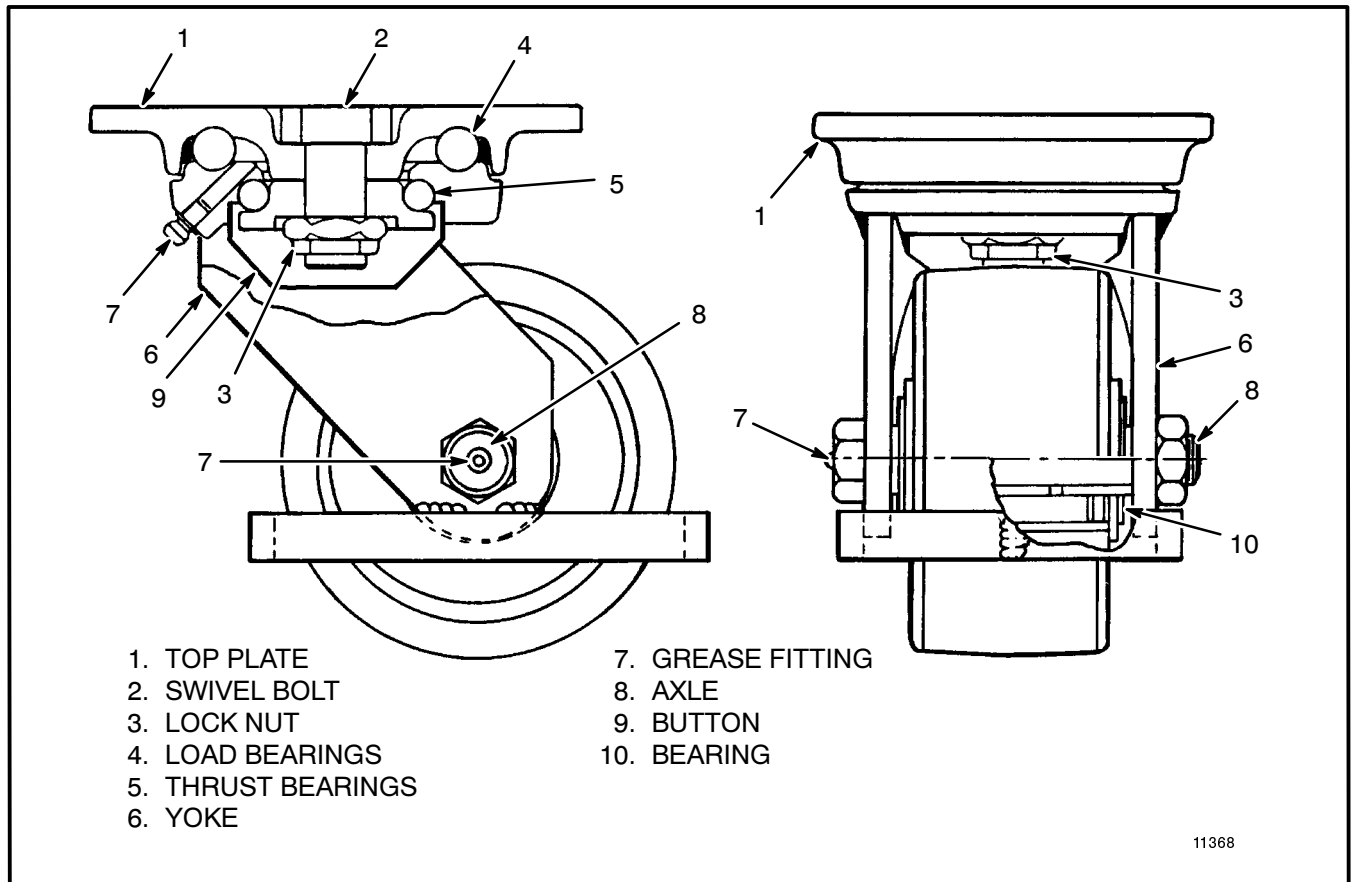
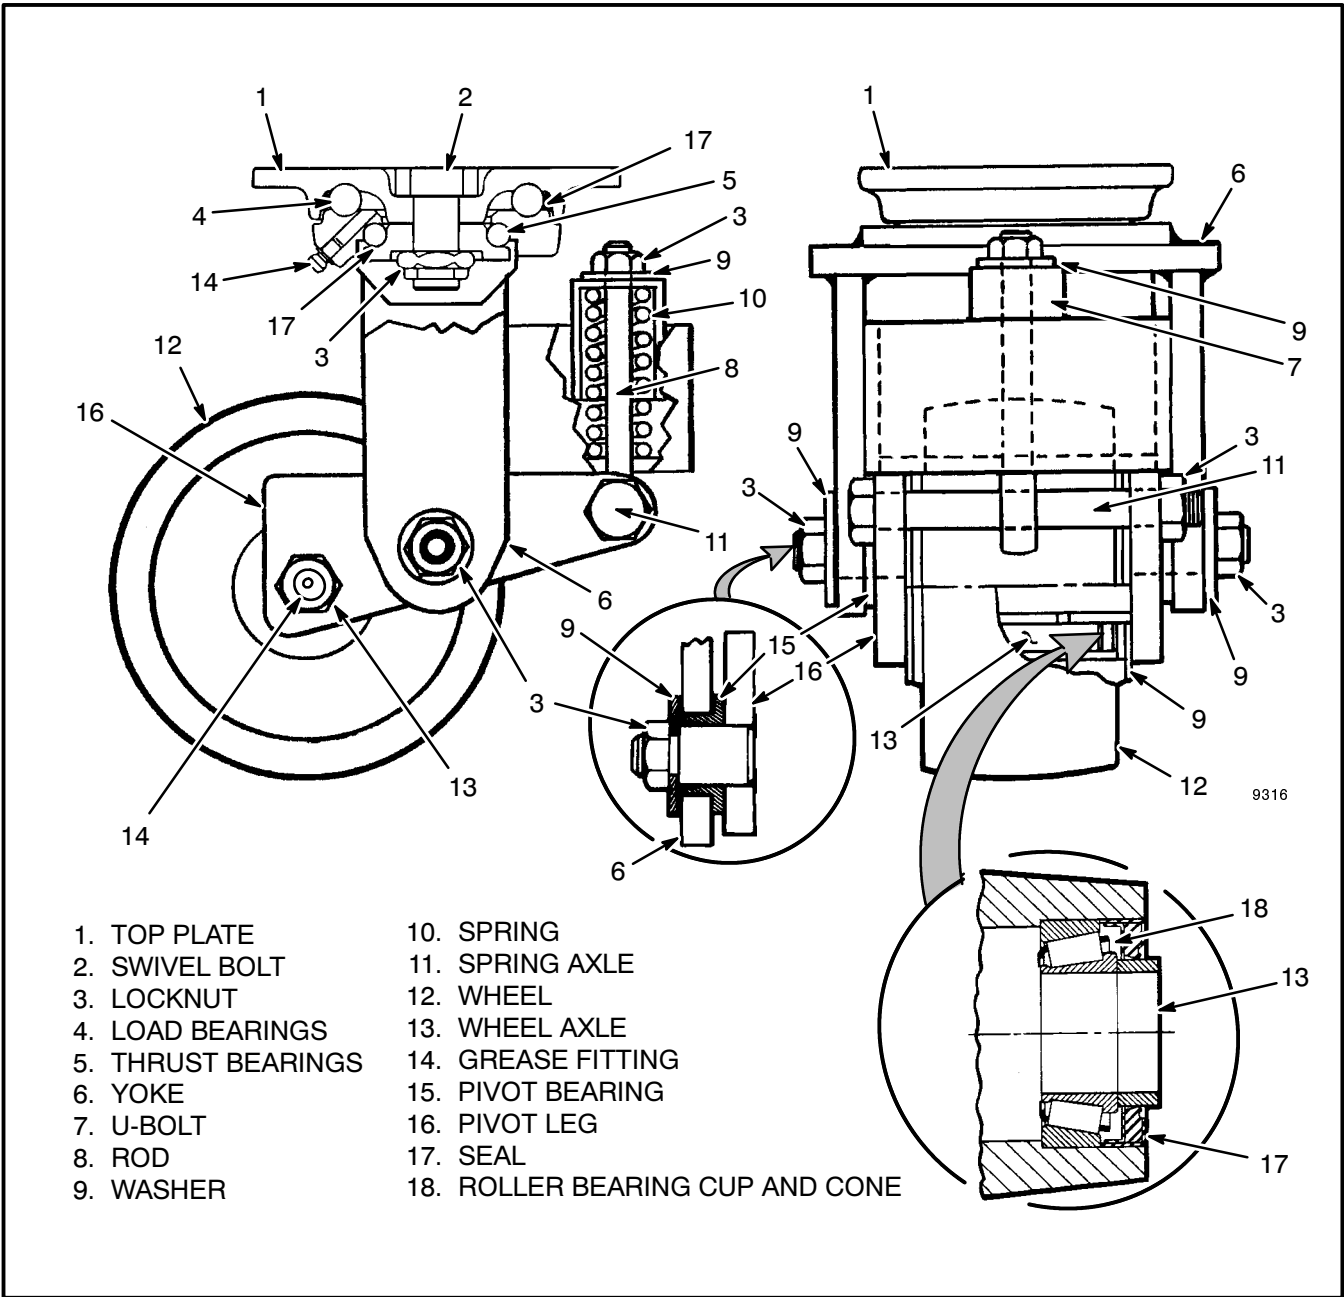
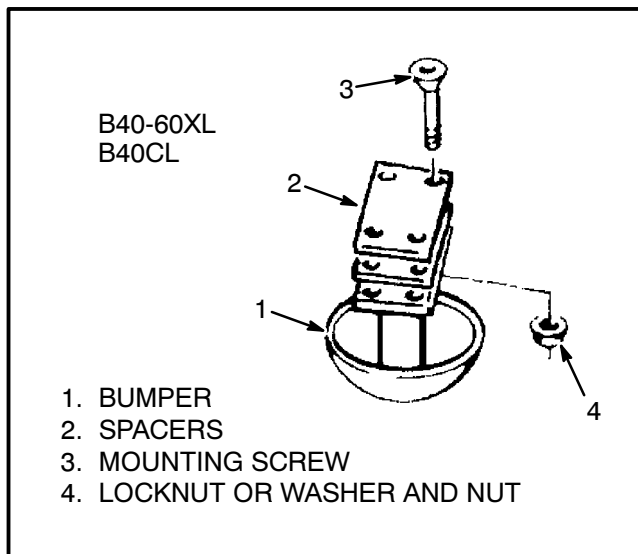

FIGURE 9 - OPTIONAL CASTERS – W40-60XL
FIGURE 10 - OPTIONAL CASTERS – B40-60XL, B40CL
FIGURE 11 - OPTIONAL BUMPER
Removal and disassembly of the standard or optional casters are found in this section. Removal and installation instructions for the optional bumpers are also in this section. See Figure 9 through Figure 11.
CASTER REMOVAL AND DISASSEMBLY - W/B40CL AND W/B40-60XL, SEE FIGURE 9 AND FIGURE 10
6. Remove the eight screws and nuts that fasten the two bumpers to the main frame. Remove the bumpers and spacers. See Figure 11.